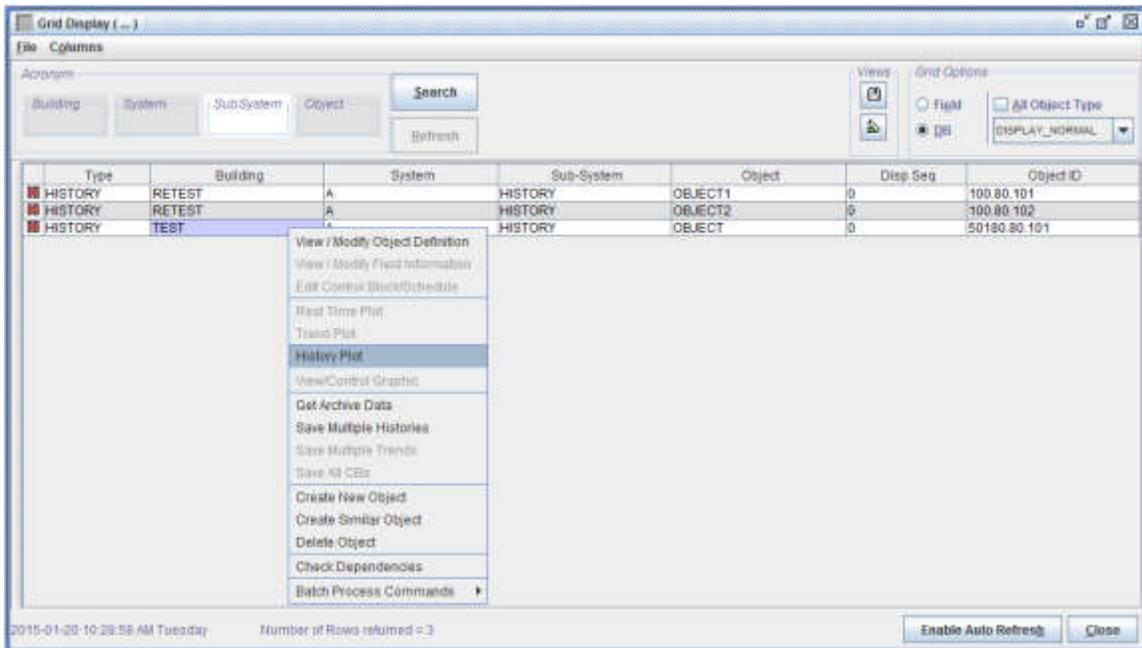

Figure 83- History Plot in the Grid Display window
2. Click the History Plot command in the pop-up menu (Figure 83).